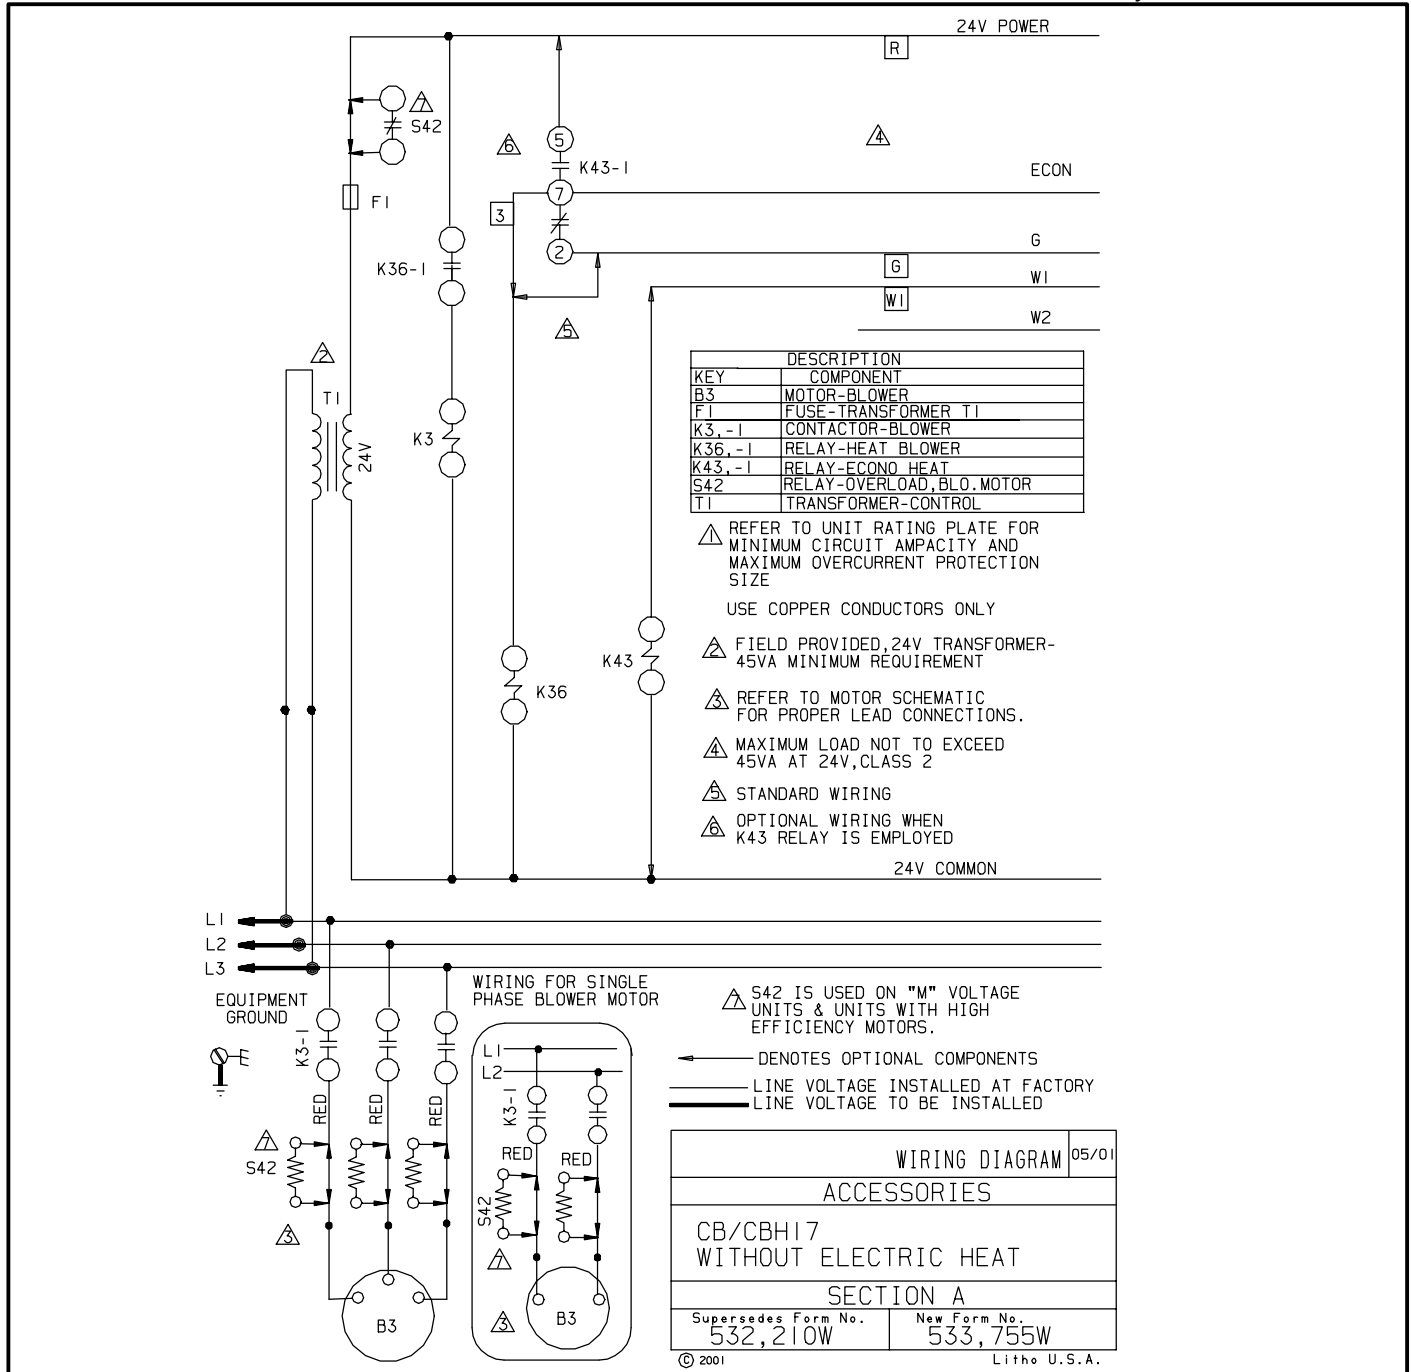

Figure 4
- 3 - Make wiring connections per the wiring section and figure 4.
Electrical connections must comply with local codes. See figure 4 for the blower coil field wiring only. Electrical conduit knockouts are provided in the piping mullion.